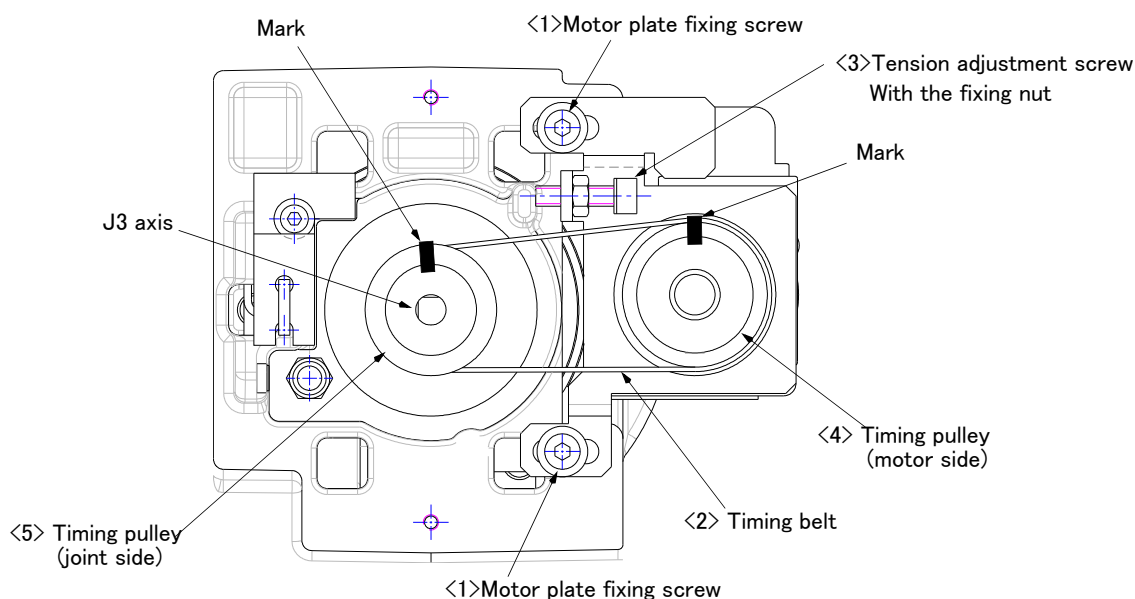

Fig.5-8 : Inspection, maintenance and replacement of J4 axis timing belt
The reference figure at inspection, adjustment, and replacement of the timing belt is shown in Fig. 5-8.
- 3) Make marks on the timing belt <2> and timing pulleys <4> and <5> with a felt-tip pen as shown in Fig. 5-8 so that the engagement of the timing belt <2> and timing pulleys <4> and <5> does not deviate.